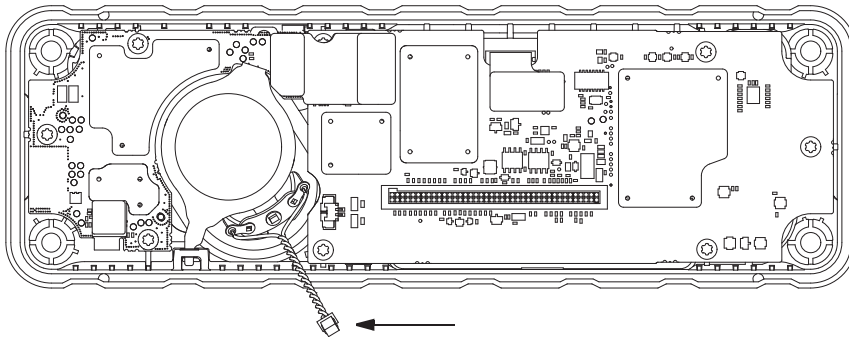

Figure 2-42. Disconnecting the Speaker Connector
- Carefully disconnect the speaker connector from the circuit board as shown in Figure 2-42.